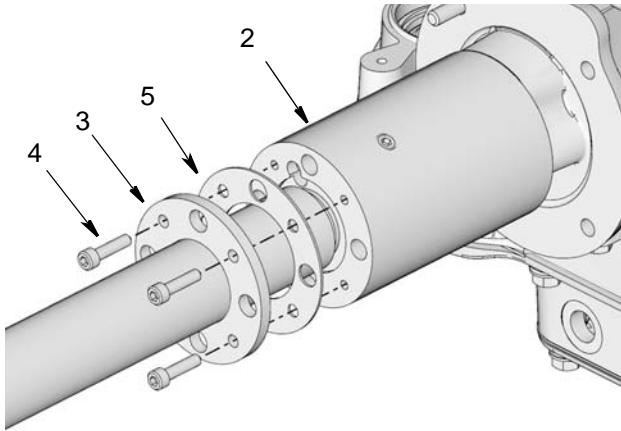

FIG. 21
7. **For Tube-In-Tube models only:** Remove bolts (4) holding tube (3) to pump adapter (2). Remove tube and gasket (5) and set these parts aside to use for reassembly (FIG. 21).